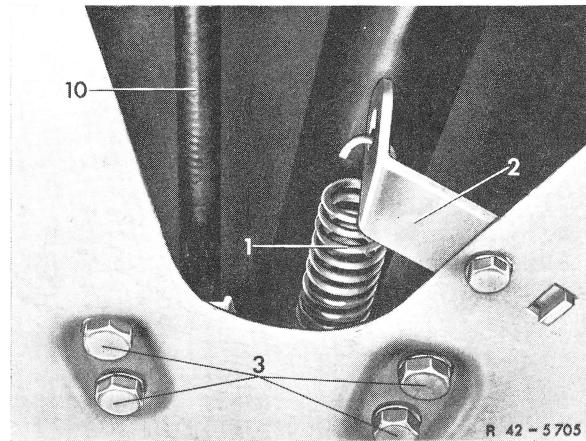

Fig. 3
- 5 Disconnect draw spring on bracket (2) (Fig. 3).
9 Screw hex. screws (3) out of holder (Fig. 3).